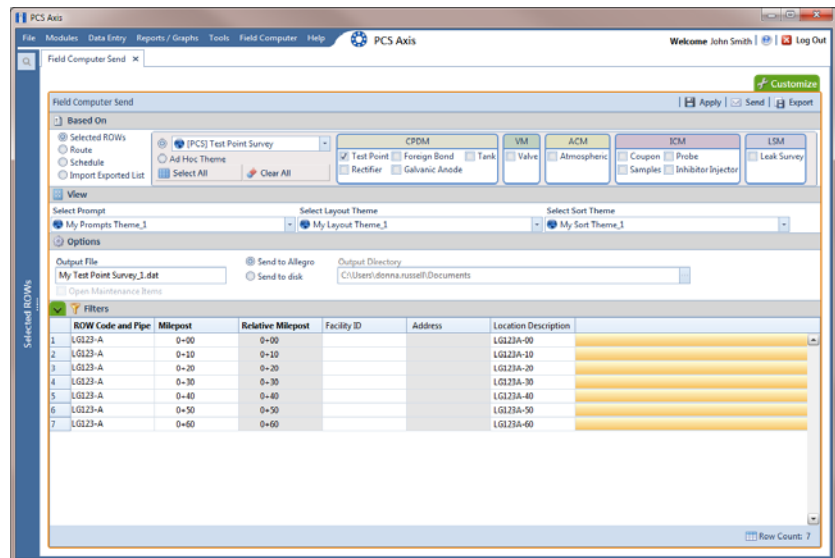

Figure 13-37. Select Sort Theme
- 13 To apply the new sorting theme to the grid, click the down arrow in the field **Select Sort Theme** and select the sorting theme in the selection list. Then click  **Apply** to update the grid (Figure 13-37).